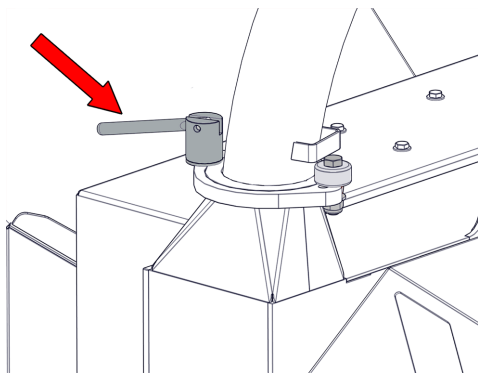

Figure 9 - Discharge Tube Locking Nut
1. Slacken the locking nut using the integral handle (Figure 9).